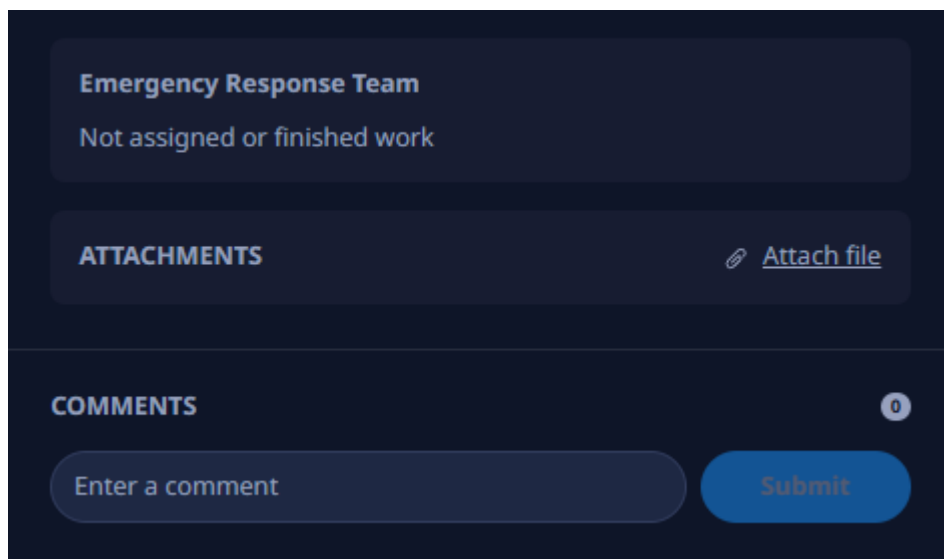

Figure 20. "Attachments" and "Comments" sections
5. If necessary, text or image files may be attached to the incident after it has been responded to. To do this, click the **Attach File** button in the **Attachments** section (see Figure 20).
6. If necessary, comments can be added to the incident before and after it is accepted. Comments on the incident will be visible to other operators who will further process it. To submit a comment, type it in the text field in the **Comments** block and click the **Submit** button (see Figure 20).